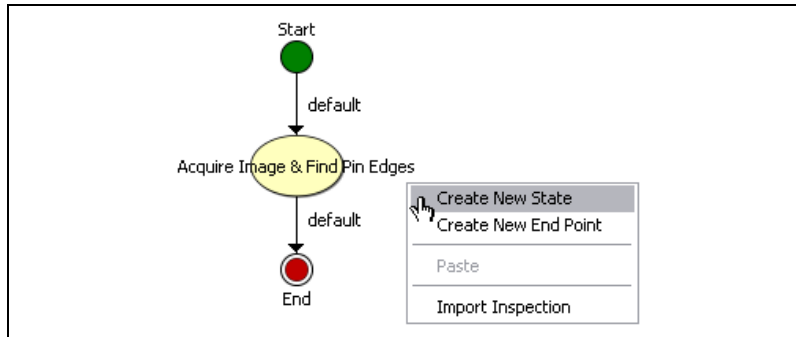

Figure 7-1. Creating a New Inspection State
4. Right-click an open area on the state diagram and select **Create New State** to add a new state to the inspection, as shown in Figure 7-1. The Edit State Name dialog box opens.